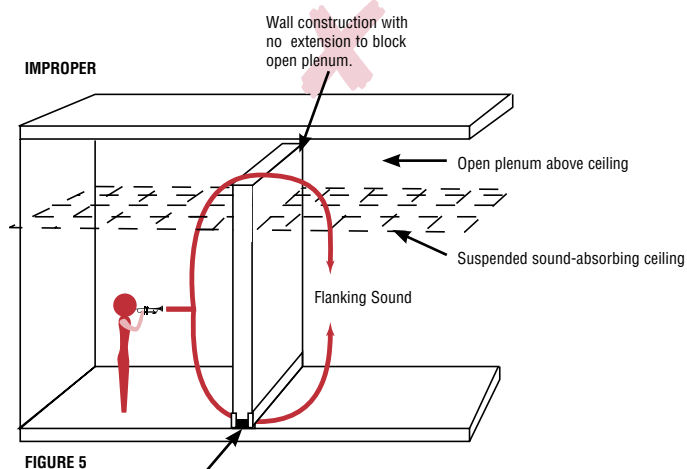

FIGURE 5
- Is sound pouring in from the top? Look above your suspended ceiling to see if the wall extends to the roof deck (figure 5). Often with a suspended ceiling, walls do not extend all the way up to the roof deck. The walls should extend to and be sealed at the overhead construction.
- Correcting improper wall construction (figure 5) is absolutely critical for adequate sound isolation. It will require a skilled carpenter to extend the wall to the ceiling deck and seal it correctly. Another option you can look into is a loaded vinyl sheet plenum barrier. Make sure any work is in keeping with current fire and building codes.